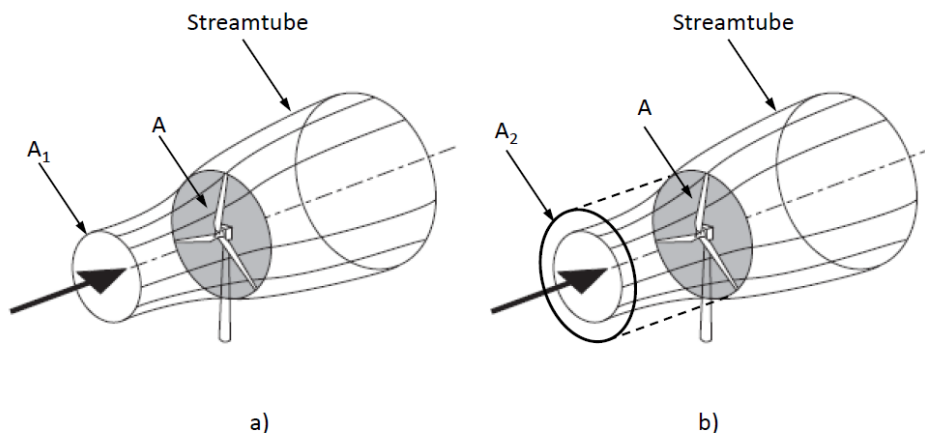

Fig. 1.
**Q3.** Fig. 1 shows the wake generated by a wind turbine. If this wake can be assumed to be a streamtube, which edges are formed by a streamline, and if air at these low speeds can be assumed to be incompressible, then which statement is true?